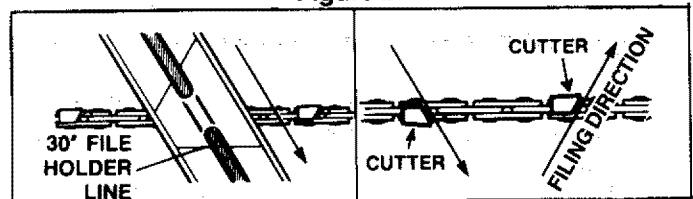

Figure 28
- c.) File from inside toward outside of cutter, straight across, on forward stroke only. Use 2 or 3 strokes per cutting edge. Figure 28.